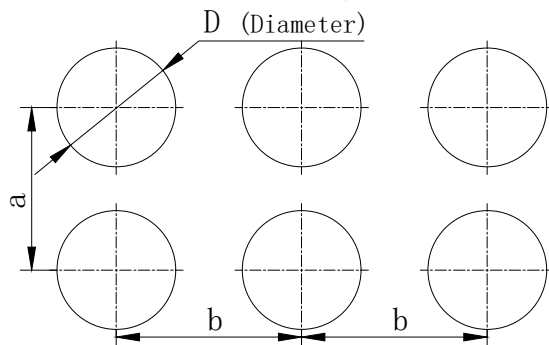

Figure 1: mounting cut-outs
4.3 Mounting cut-outs: See Figure 1 (Unit :mm)